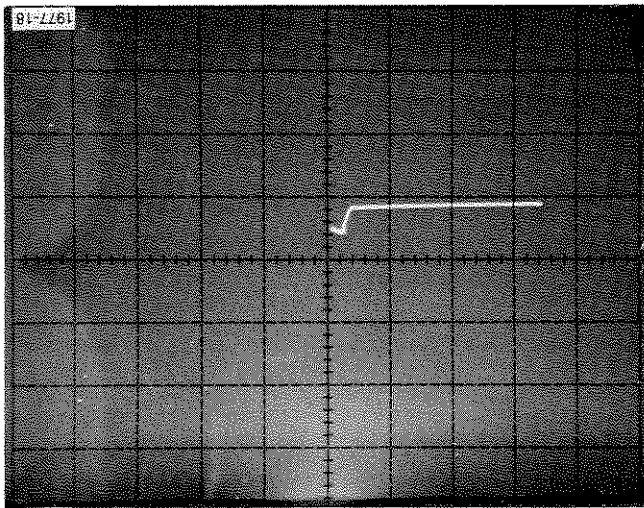

Fig. B-7. Display of — supply current.
b. Repeat parts b through e of Step 5 above (see Fig. B-7).